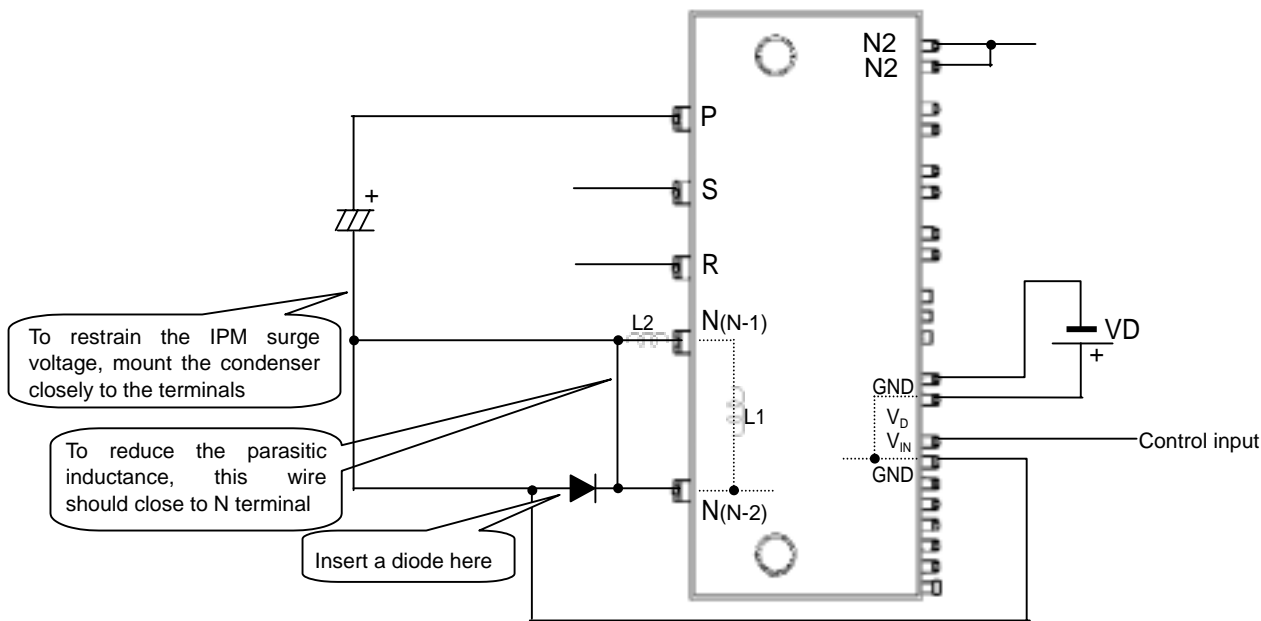

Fig. 13 Recommended wiring method
- The two IGBT emitters are connected to the VNO terminal of LVIC inside the DIP-PFC. If the internal wiring inductance shown as L1 and L2 in Fig. 13 is too large, large surge voltage will be generated by di/dt. Especially, the lower the temperature, the faster the switching speed, therefore the larger the di/dt. This surge voltage applies to the VNO and N terminals, which is possible to destruct LVIC.
- In order to suppress the surge voltage, the external wiring method shown in Fig. 13 is recommended. To reduce the parasitic wiring inductance, the wiring of the external terminals of N(N-1) and N(N-2) should be made as short as possible.